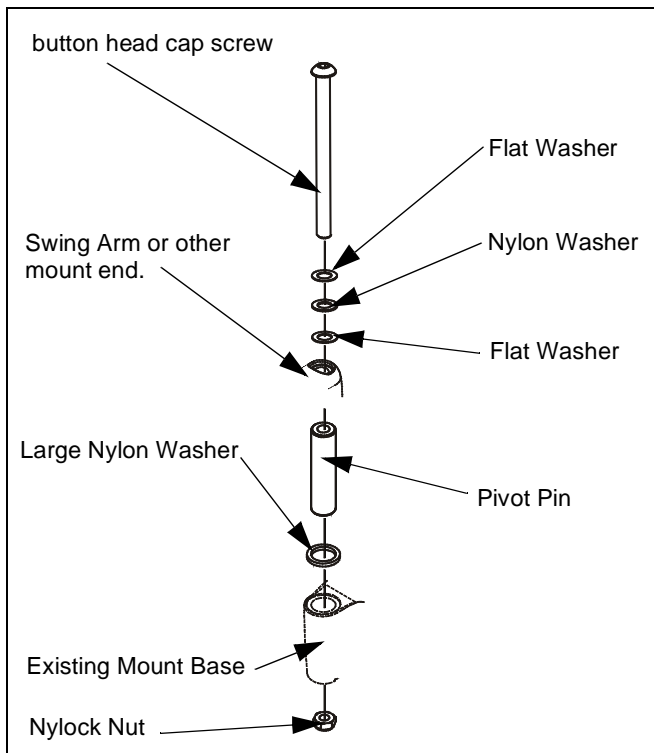

Figure 2: Prepare Existing Mount
3. Uninstall button head cap screw, one nylon washer, and two flat washers from swing arm and set aside for reuse. (See Figure 2)
4. Remove large nylon washer, pivot pin, and Nylock nut from existing mount base and set aside for reuse. (See Figure 2)